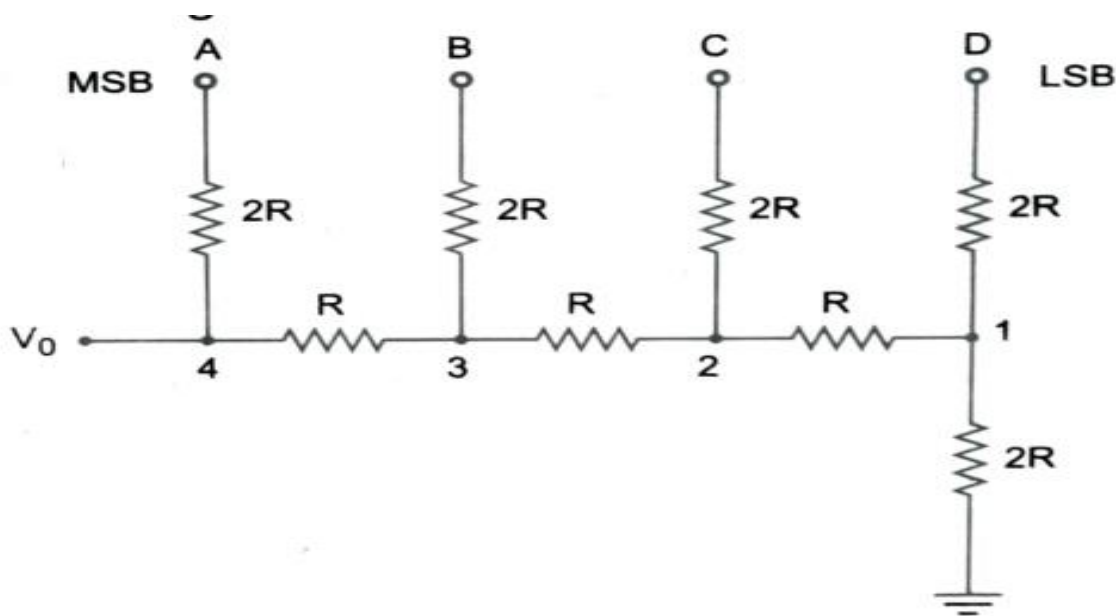

Fig. 10.11: D/A Convertor
- Fig 10.11 shows a circuit known as binary ladder network for D/A conversion.